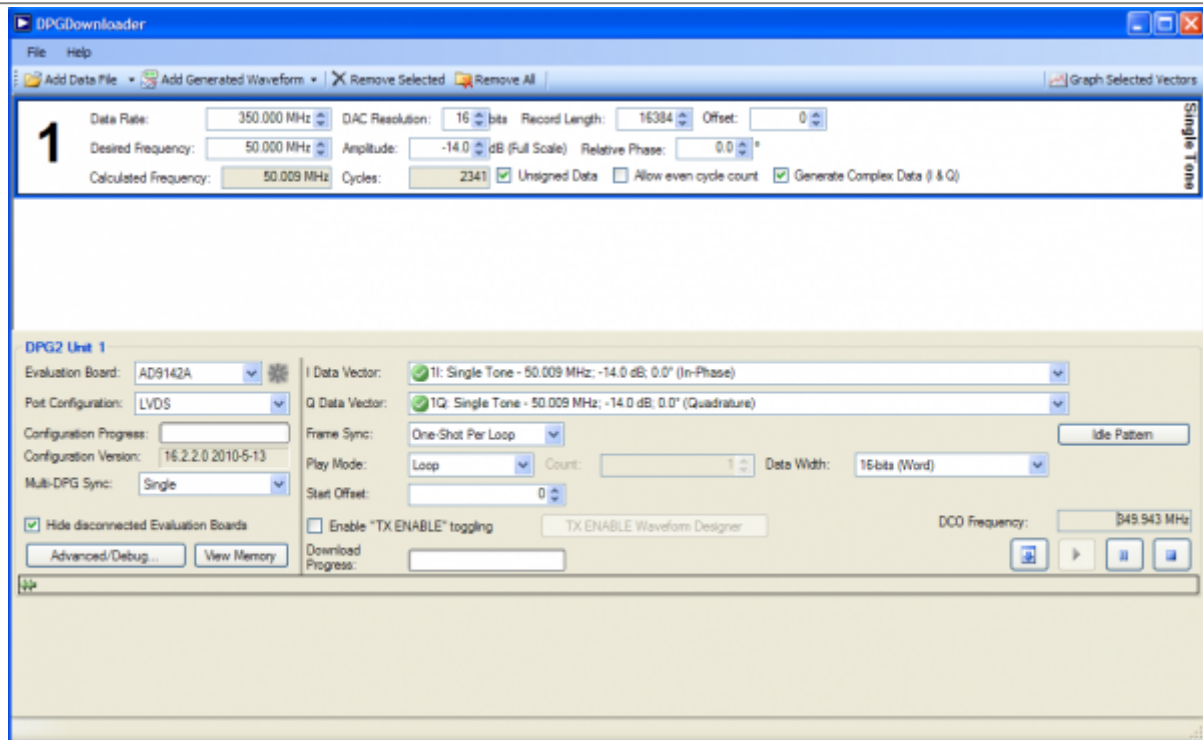

Figure 5 DPG Downloader sinewave vector
- g. Click on “Add Generated Waveform”, and then “Single Tone”. As shown in Figure 5, A Single Tone panel will be added to the vector list. Enter the sample rate, in this case 350 MHz and the desired frequency, 50MHz. Enter the digital amplitude. In this case we use -14dBFS. Check the “Generate Complex Data (I & Q)” box and uncheck the “Unsigned Data” box. Select the In-Phase data vector in the “I Data Vector” drop down menu and the Quadrature data vector in the “Q Data Vector”.
The full screen layout is shown in Figure 5. The tabs can be seen across the top of the work area, and four function buttons in the menu area. “Save Registers to File” and “Restore Registers from File” allow the user to save the current register settings into a file for later uses. A register is immediately updated when the value in the control is changed. Switching between tabs does not update register values. “Read All Registers” can be used to monitor a register with changing readback values. “Record Sequence” allows the user to record a series of SPI writes in a particular order and to play back the sequence later. A short description of the register is shown in the status bar on the bottom of the work area when the mouse cursor hovers over the control. Some of the tabs are discussed below.